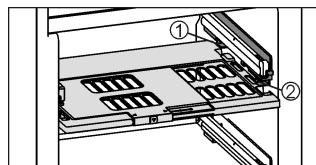

Fig. 5
- To insert the humidity control plate: Insert the guide pieces of the plate into the rear retainer Fig. 5 (1) from below, then snap the plate into the retainer Fig. 5 (2) in the front.